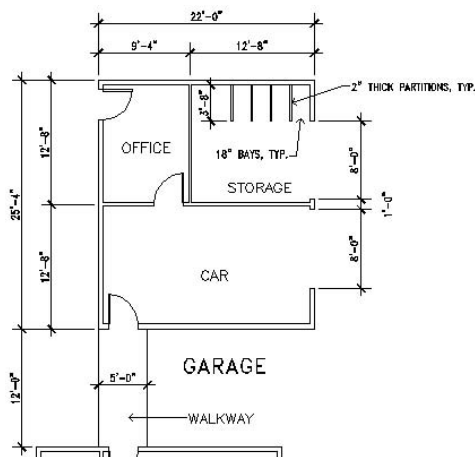

FIGURE 11.39: The walkway and garage dimensioned
3. If you added text to this drawing and saved it in the practice exercise in Chapter 10, use this drawing (see Figure 11.39).